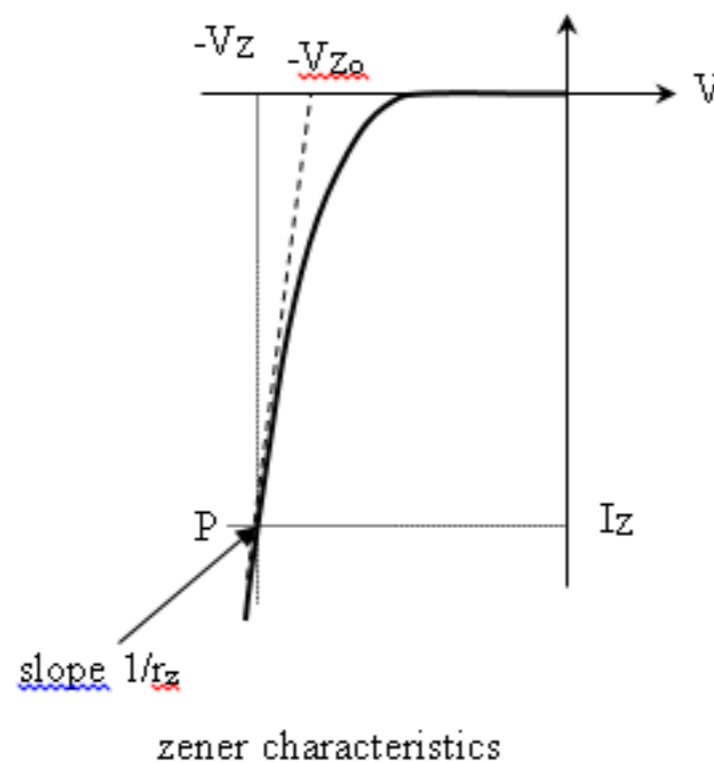

Fig. 4a: Zener diode V-I curve
- Plot I_Z against V_Z . For a value of $I_Z = -20$ mA, determine r_z and V_{z0} (Fig. 4a).